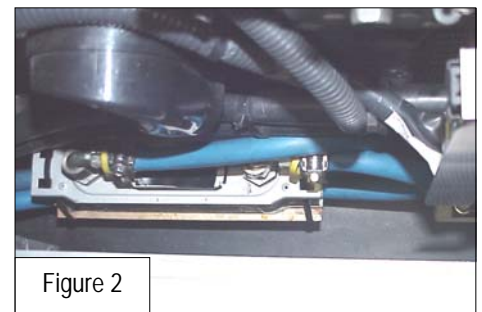

Figure 2
6. Attach the supplied 90° 3/8"x-6AN fittings to the oil cooler, leaving loose for now. Starting with the fitting closest to the center of the vehicle, attach the supplied 3/8" hose to the fitting. Route the line underneath the cooler and trim to fit to the lower of the two steel hoses. Route the second line towards the center of vehicle, under the cooler and trim to fit to the remaining steel line. Your cooler line install should look like **Figure 2** when complete. Tighten AN fittings and secure cooler lines with the supplied hose clamps.